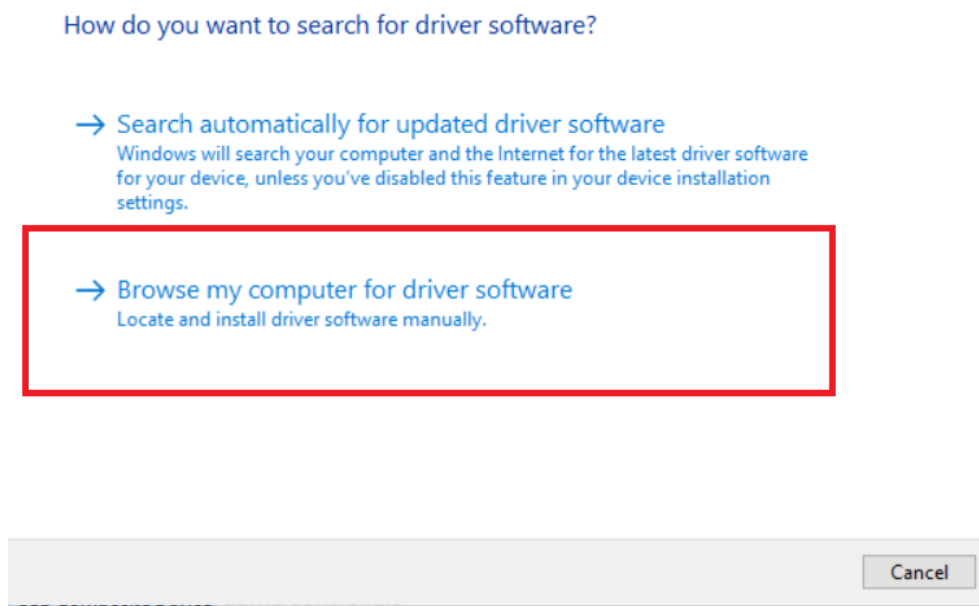

Figure 42: Selecting to Browse for Driver Software Directory
- ☐ Navigate to the path shown in Figure 42. This should be the path where you have installed Quartus on your computer.